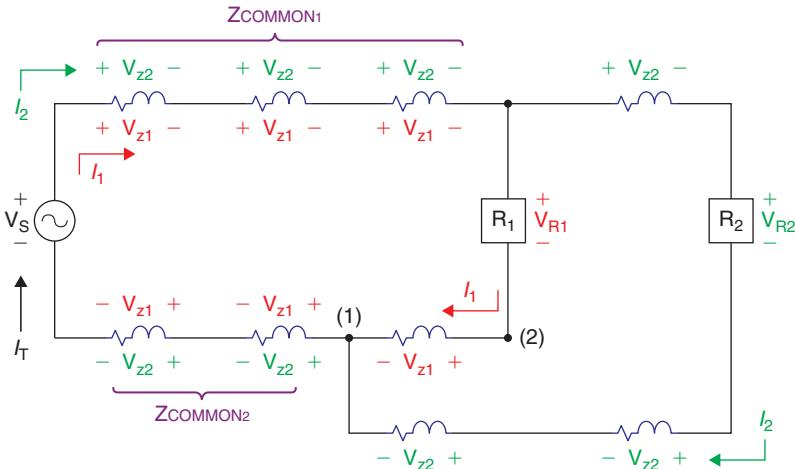

Figure 6-10. The actual circuit—the hidden schematic.
With this understanding we can see from Fig. 6-10 that there is an “unseen” schematic within the PCB. As a result, although the relationship  $I_T = I_1 + I_2$  is still true, it should be realized that  $V_{R1} = V_{R2} = V_S$  is no longer true, because there are voltage drops along the shared and individual impedances between the source and each of the loads. Furthermore points (1) and (2) and any other points along the return path are not equipotential. The ideal, equipotential ground plane does not exist in practice.